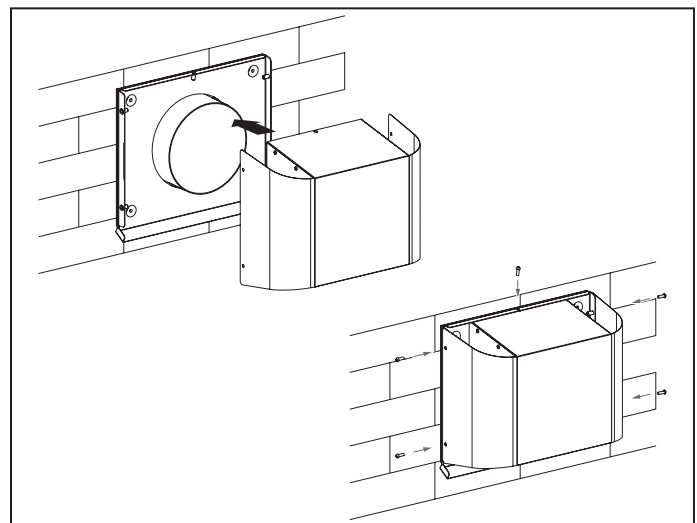

Fig. 16b.
- Fig. 16b – models VENTO Ergo A50 S Pro and VENTO Ergo A50-1 S Pro.